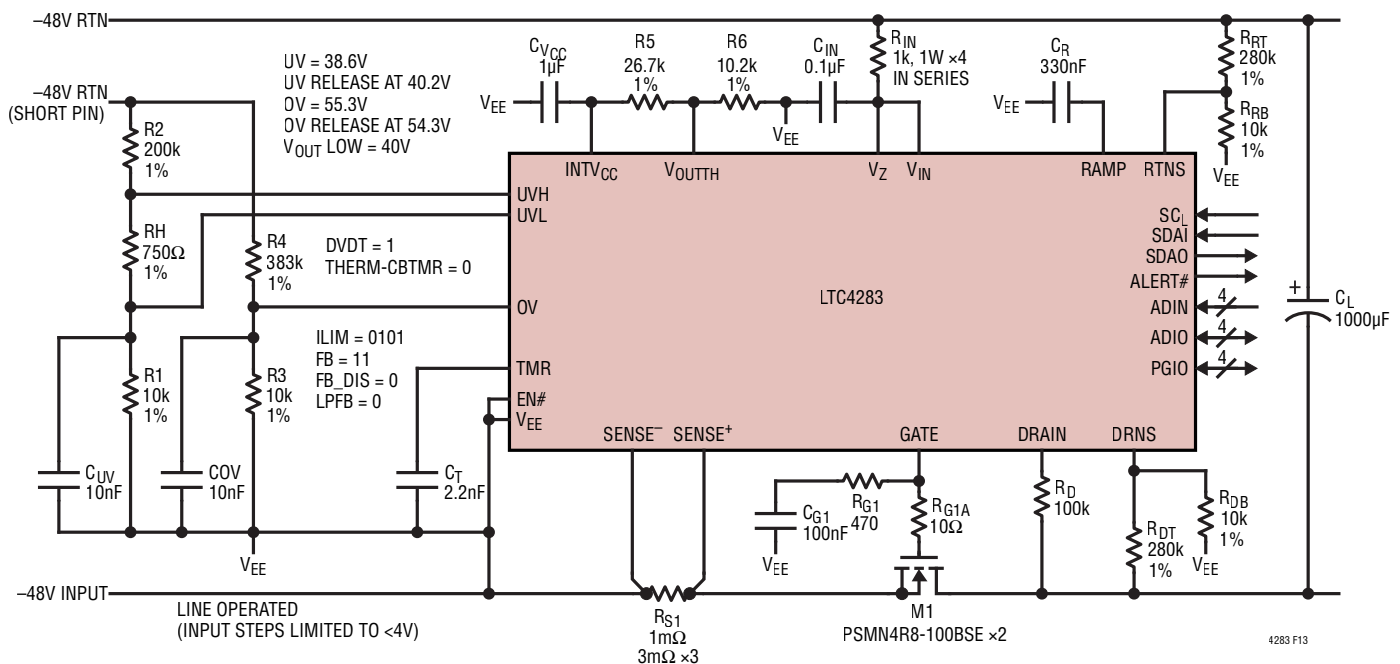

Figure 13. -48V/800W Hot Swap Controller with dV/dt Inrush Control
The second example is a line operated -48V system with supply tolerance of 10% (-43.2V to -52.8V) and maximum load power of 800W as shown in Figure 13. The load capacitance is specified as  $C_L = 1000\mu\text{F}$ .
voltage can be obtained with a resistive divider between INTVCC (5V) and VEE. The divider ratio is 5V/1.379V = 3.63. A divider of 26.7k and 10.2k as shown Figure 13 gives a close enough ratio of 3.62.
Although it is possible to use a single, four-resistor (or three-resistor if UVH and UVL connected together) divider as shown in Example 1, Step 7, two independent dividers with 2 (OV) or 2 to 3 (UV) resistors in each divider make it easier to make non-interactive changes at a later time. The two dividers as shown in Figure 13 gives UV shutdown at 38.6V, UV release at 40.2V, OV shutdown at 55.3V and OV release at 54.3V, which covers the full input voltage range of this example. 10nF capacitors filter out noises on UVL and OV.